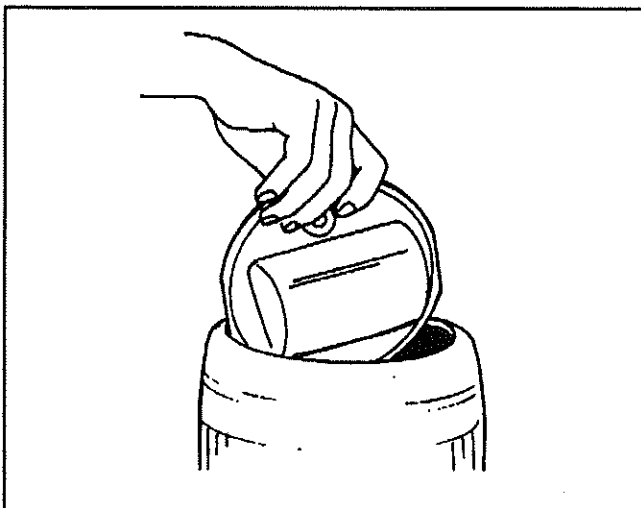

FIG. 10
4. Rotate upper retainer in order to align its two (2) flat surfaces with the wall of bellows, then press on it to elongate the opening and remove the upper retainer by pulling it out (see fig. 10).